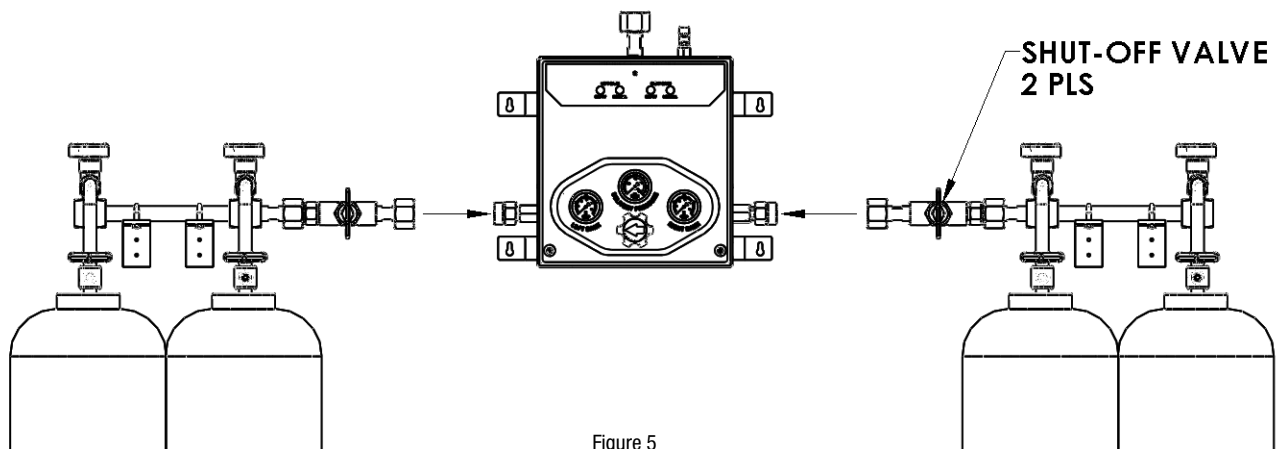

Figure 5
6. Align the right and left header bar with the right and left inlet connections to the box. See Figure 5 for an illustration of this. Make sure that the header bars are level and perpendicular to the box. Attach the header mounting brackets to the wall with appropriate hardware (not included). Assemble the header outlet connection to the control box on both the right and left side. Wrench-tighten all connections. Tighten the U-bolts on the header mounting brackets to secure the headers in place.
3. If equipped, close the master shut off valves for both the right and left side. Refer to Figure 5 for the location of the master shut off valves.